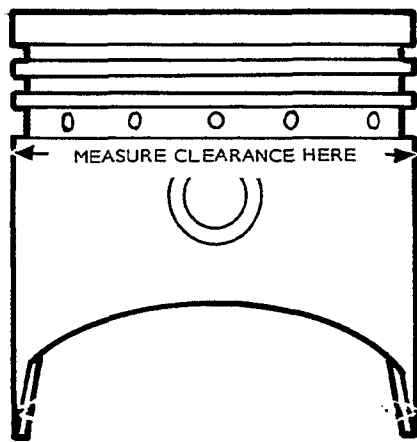

FIGURE 33. MEASURING PISTON CLEARANCE
- b. Measure the piston to cylinder clearance as shown in Figure 33 to be sure the total clearance follows specifications.